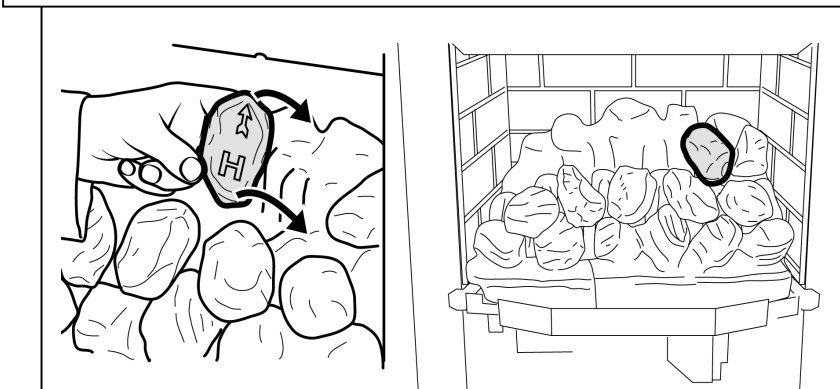

Figure 41. Third row "Coal H"
**17.** Hold coal 'H' upright with the arrow pointing to the top. Locate coal 'H' as shown in figure 41